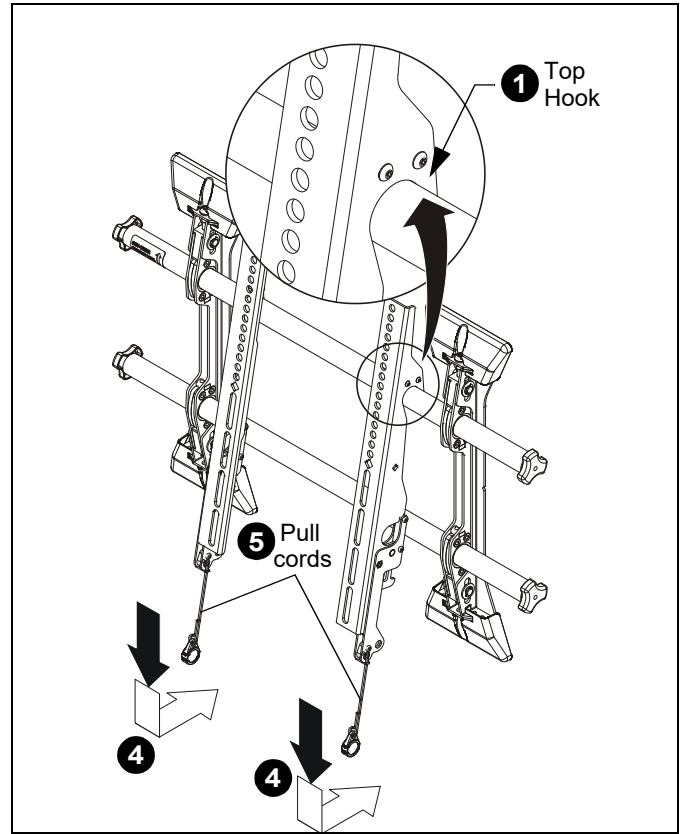

Figure 15
1. Hang screen by hanging top hook of interface brackets onto the top rail of the mount (X). (See Figure 15)
- 4. Pull downward on the pull cords and swing inward toward wall, latching interface brackets to lower rail and fastening bottom of screen to the mount. (See Figure 15)
- 5. Attach end of pull cord (a magnet) to mount so it does not extend beyond bottom of screen. (See Figure 15)